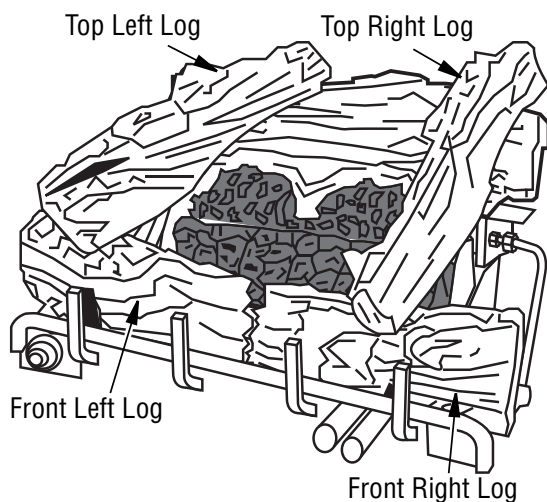

Figure 26 - Installing Logs
4. Place top left log as shown in **Figure 26, Page 20**. The bottom of the log is shaped to fit onto the recessed areas of the front left log and the rear log. The recessed areas are painted yellow.
5. Place top right log as shown in **Figure 26, Page 20**. The bottom of the log is shaped to fit onto the recessed areas of the front right log and the rear log. The recessed areas are painted yellow.